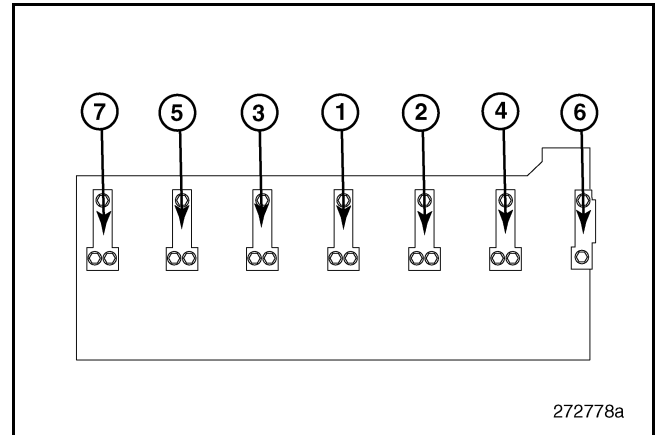

Figure 99 — Rocker Arm Shaft Fastener Loosening Sequence
4. Beginning at the center camshaft bearing cap, begin loosening the three fasteners at each cap evenly in stages, following the sequence shown in Figure 99 until all fasteners are completely loose. Once loosened, remove the fasteners.